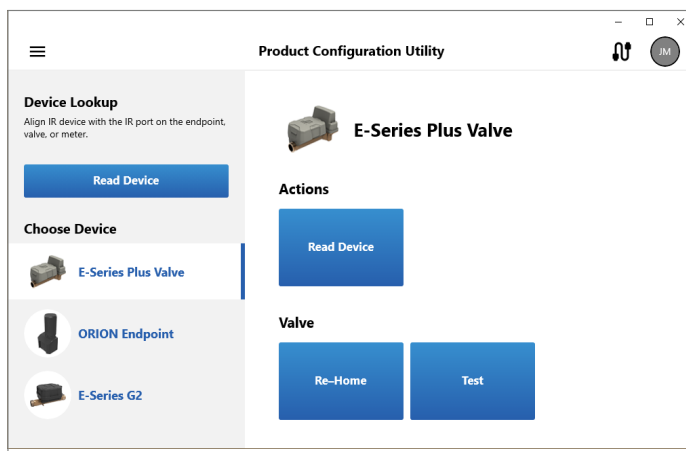

Figure 15: PCU Product Selector default main screen
3. Sign in with your BEACON email and password. Then click **Sign In**. The software Product Selector default main screen opens (Figure 15).